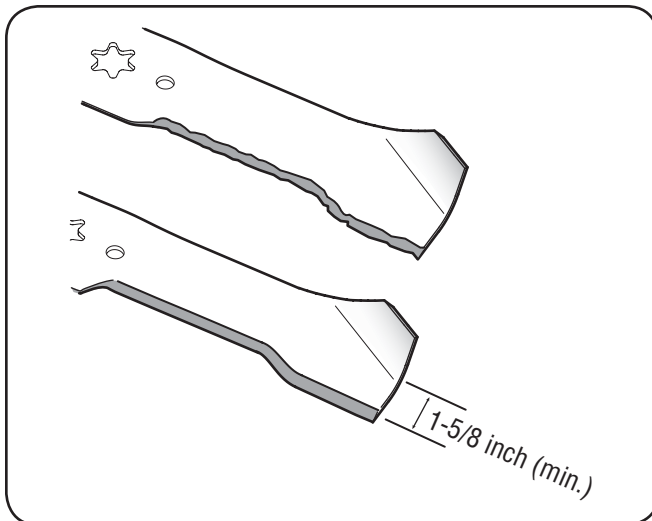

Figure 7-6
**IMPORTANT:** If the cutting edge of the blade has already been sharpened to within 1 5/8" from the edge, or if any metal separation is present, replace the blades with new ones. See Figure 7-6.